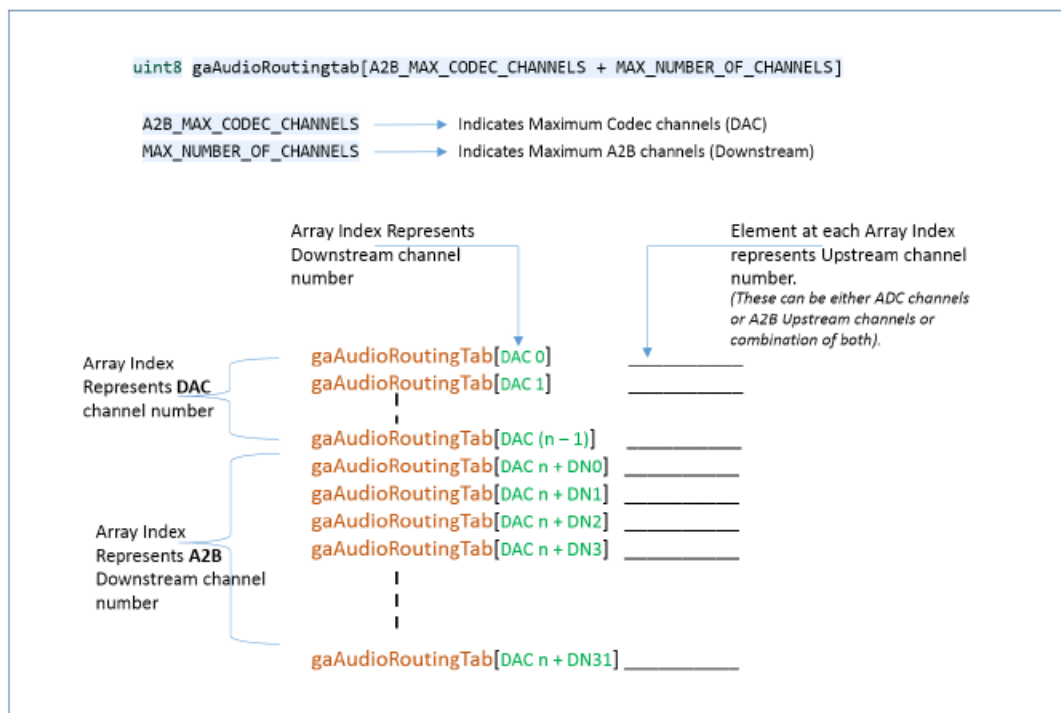

Figure 31 : Audio Routing Table Structure
- The various fields of the routing table structure `gaAudioRoutingtab` are explained in Figure 31.